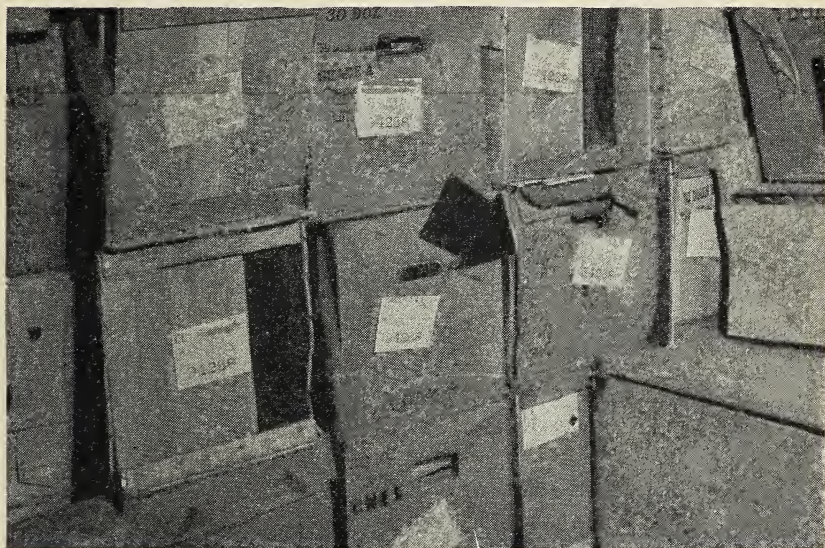

Figure 32.—The stacking of wooden egg cases over fiber cases is a bad practice and often results in damage to the fiber case.
- b. Fiber cases should never be stacked under wooden egg cases (fig. 32).